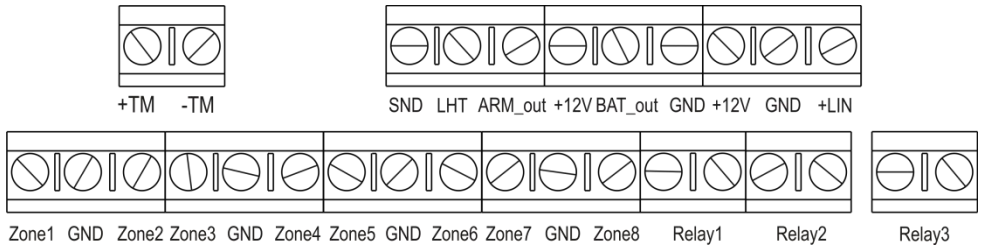

Figure 3
- 7) Electric wiring to output terminals of the device (figure 3) should be performed in accordance with selected connection diagram (Appendix A).